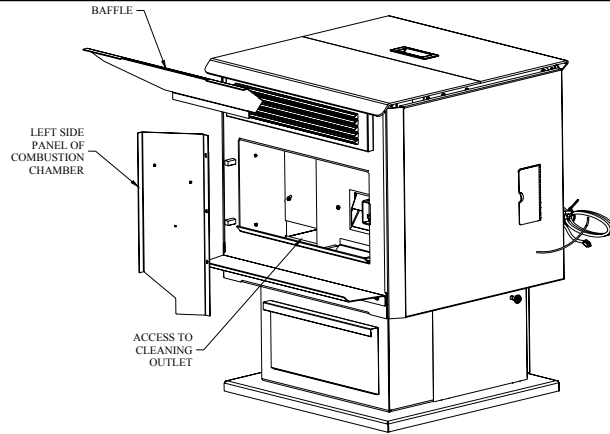

FIGURE 22
- Chamber walls:** Periodically, you must vacuum the ashes that may have accumulated on the main walls of the combustion chamber. **START BY REMOVING THE DECORATIVE MASONRY-LIKE PANELS, WHICH ARE SIMPLY HELD BY SCREWS.** Scrape off ashes. Use a vacuum if necessary. There is also a cleaning outlet located behind the left side panel of the combustion chamber. Remove this panel using a screw driver. You will notice a small rectangular cleaning outlet. Inspect behind this outlet (see figure 22) Insert the vacuum tip through the cleaning outlet and clean thoroughly. **REPEAT THIS OPERATION AT LEAST ONCE PER TON OF PELLETS BURNED UNTIL YOU ARE FAMILIAR WITH HOW ASHES ACCUMULATE WITH YOUR OPERATING PRACTICES.**